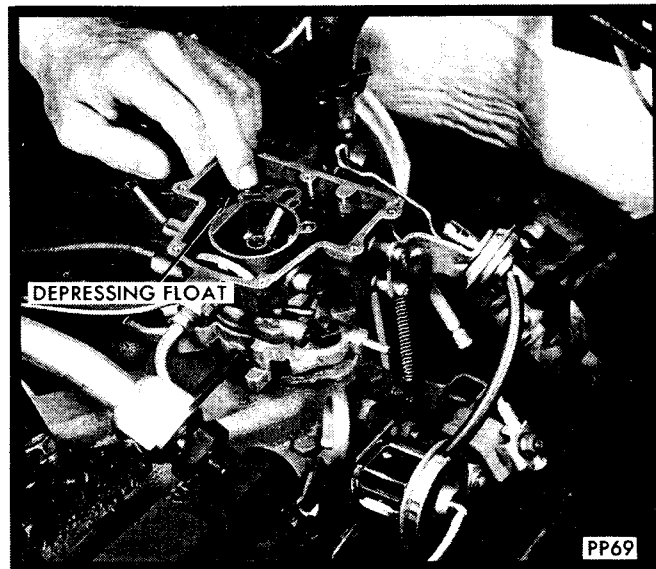

Fig. 2—Overfilling Float Bowl
- (8) Remove seven bowl cover screws and lift bowl cover straight up until vacuum piston stem, accelerator pump, and main well tube are clear of the main body.
- (9) Depress float manually to allow residual line pressure to overfill the bowl to within 1/8 to 1/4 inch below the top of the fuel bowl (Fig. 2). If line pressure is not enough to fill the bowl, use an external supply.
- (10) Using two wrenches, back off flare nut and tighten inlet fitting to recommended torque (170 inch-pounds).
- (11) Place bowl cover gasket on top of fuel bowl.